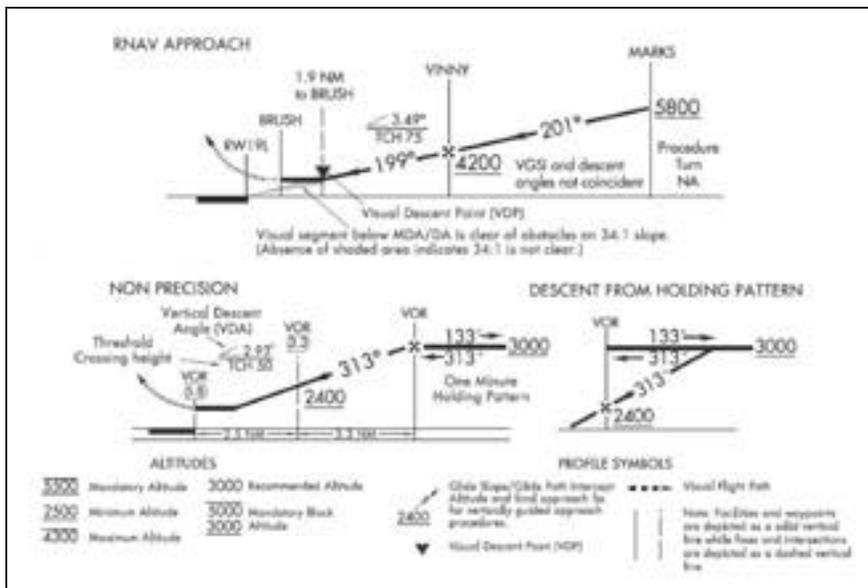

Figure 1 – Legend From NACO plates
approaches, GPS Overlay approaches and a growing number of RNAV/VNAV and LPV approaches, all with constant angle vertical guidance. The FAA and the Department of Defense (DoD) in the US publish flight path angles on their non-precision approaches now (Figure 1). A stabilized approach is the key to a safe approach and key to a safe landing – IFR or VFR. Isn’t that what our instructors always harped on us? Get on the glide path! *Get on the 3-degree! Site picture! What’s your aim point! You’re too high. You’re too low.* Even on nice sunny VFR circuits we stress the importance of maintaining a 3-degree final flight path, yet we still fly the step-down NDB on-the-field approach we have never previously flown in Wausau Wisconsin, in 1 mile visibility at night with no horizon or opposite end of runway in sight.
It must first be clear that this method applies to Straight-In approaches and not circling procedures. In the US, this method only applies to non-precision approaches with a published vertical descent angle (VDA) or glide slope (GS) (See Figure 1). In Canada, we don’t have that restriction. (But always check